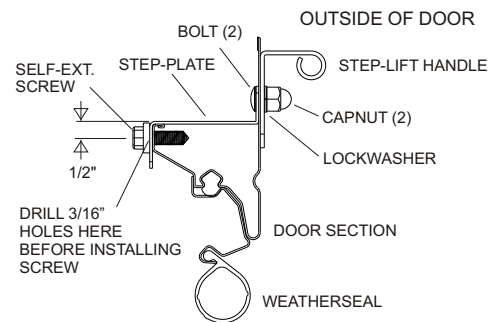

FIGURE 12 - ASSEMBLED VIEW
5. Drill two (2) 3/16" holes through the Step-Plate and door panel back leg.
6. Secure Step-Plate to the back rail using two 1/4-14 x 5/8" AB Point screws provided. (See Figure 12 for finished product)